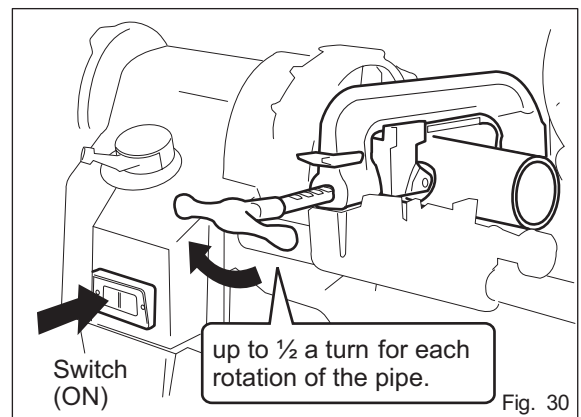

Fig. 30
6. Switch the machine on and turn the cutter handle up to  $\frac{1}{2}$  a turn for each rotation of the pipe. (Fig. 30)